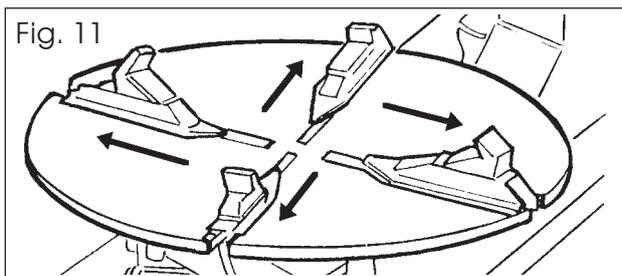
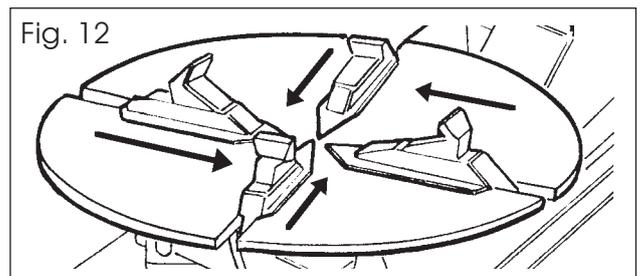
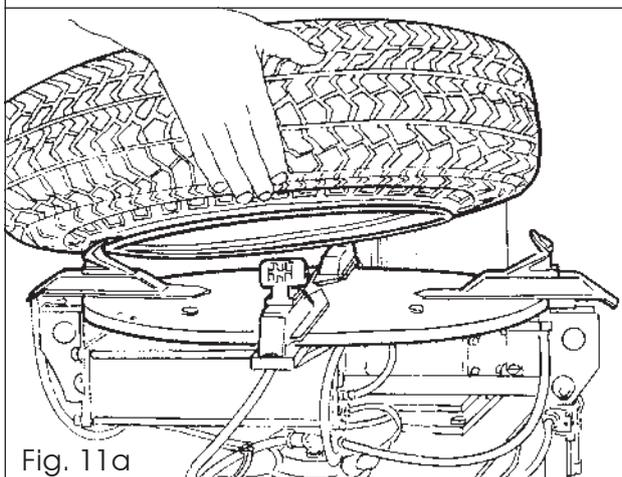

Fig. 11
Fig. 12
Fig. 11a
- For A 9820 depress pedal (10) to bring the sliding clamps to the outside of the table (Fig.11) if you wish to clamp the rim on the outside as shown in Figure 11a (recommended for alloy rims); alternatively, keep pedal (10) depressed to bring the sliding clamps to the centre of the table (Fig.12) if you wish to clamp the rim on the inside (Fig.12a). For A 9824 see Figure 12c .